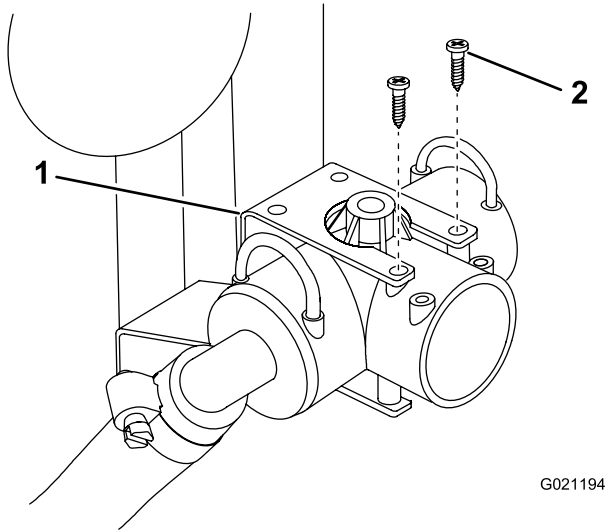

Figure 5
3. Remove the 2 screws securing the supply tee to the mounting bracket. Remove the supply tee and hoses (Figure 5).
4. Install the new control valve into the open port on the supply tee and secure it with a new retainer (Figure 5).